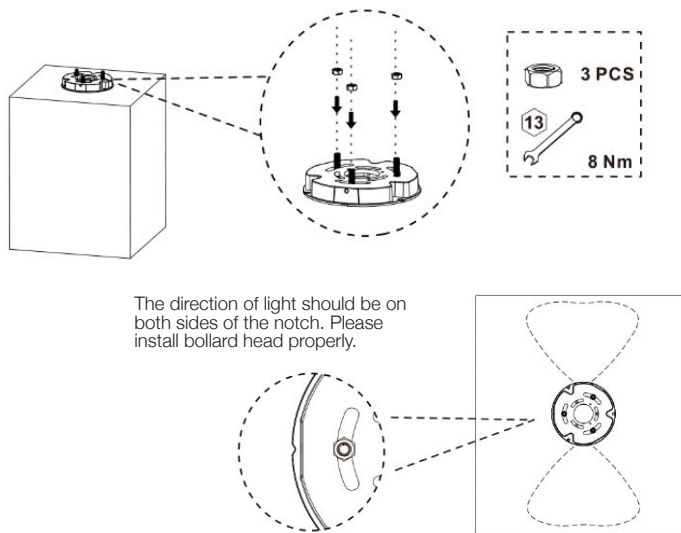

Fig. 3
3. Remove the bottom of the base and insert it onto the plate on the concrete. Tighten the M8 nuts to the L screws. The recommended torque value is $\sim 8\text{Nm}$. Take note of the notch position. (Fig. 3)